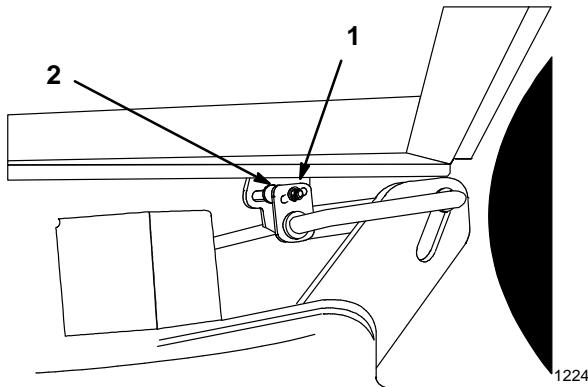

Figure 11
4. Loosen adjustment bolt on one side of tractor and rotate hanger bracket to raise or lower mower (Fig. 11).